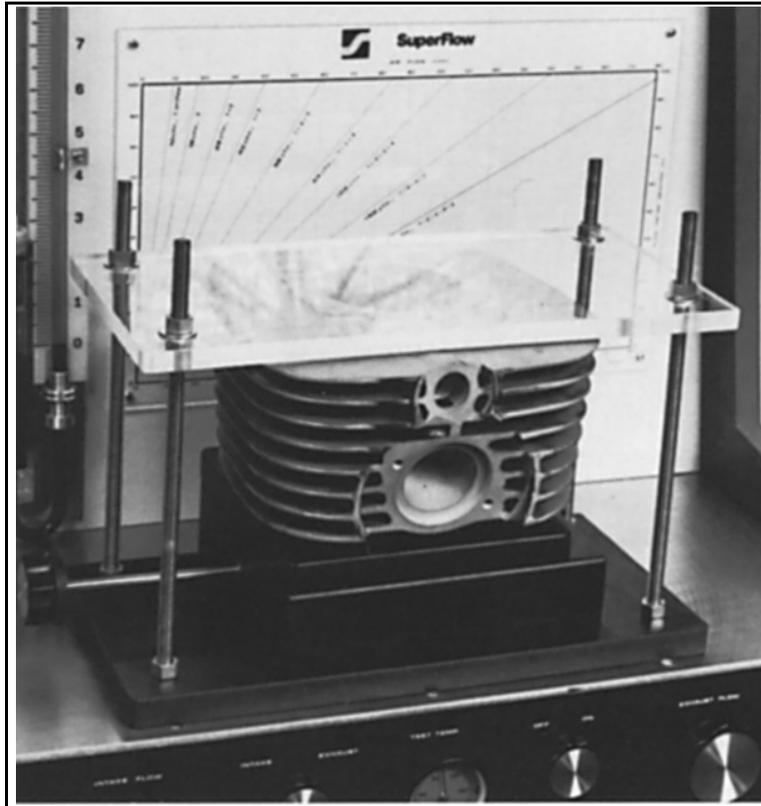

Figure 8.9: Two-Stroke Cylinder Mount
1. To perform a flow test, it is first necessary to mount the two-stroke cylinder onto the flowbench. "Figure 8.9: Two-Stroke Cylinder Mount" shows a typical two-stroke cylinder mounting system with a Yamaha cylinder mounted onto an SF-110 flowbench.